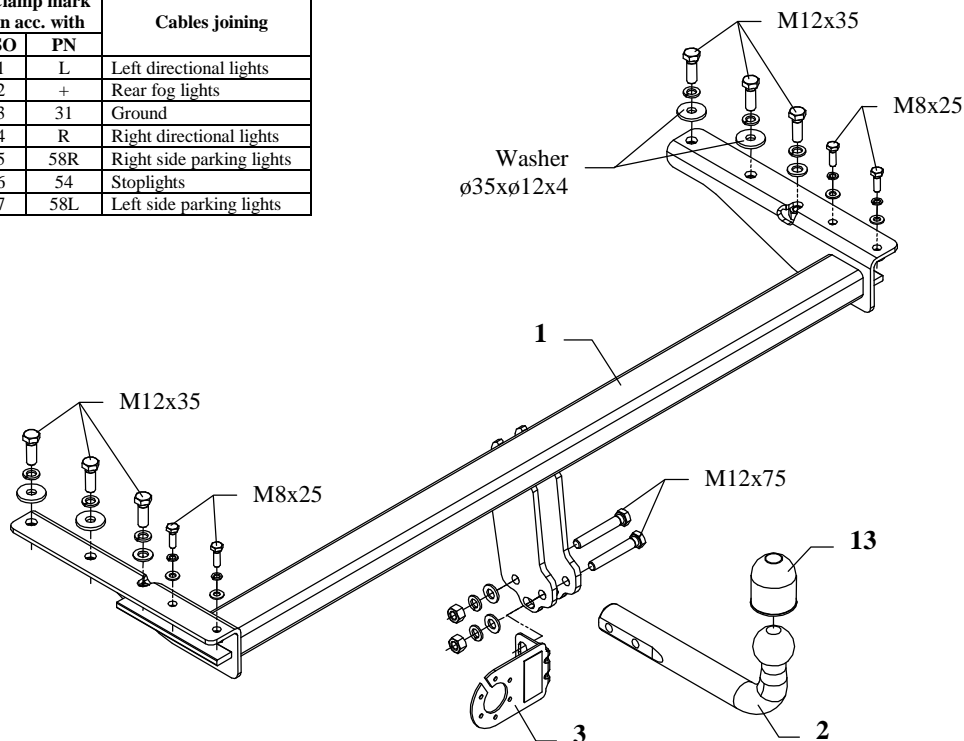
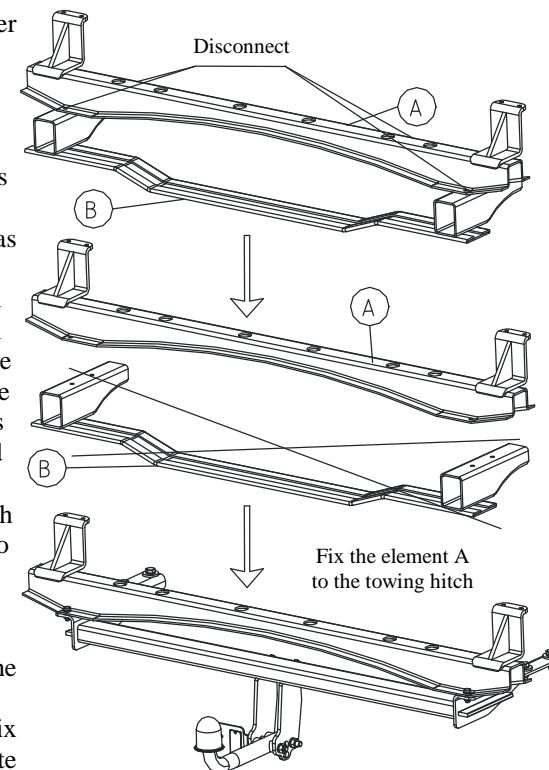

Fig. 1
Fig. 2
4. Disconnect the metal fulfilment as showed on the fig. 2.
5. Element B (see fig. 2) not used anymore, whereas element A (see fig. 2) one ought to fix to the main bar of the towing hitch (see fig. 1, pos. 1) using bolts M8x25mm (pos. 6) as showed on the fig. 2.
6. So prepared towing hitch fix with the bumper, which one ought to slip into chassis members, then fix using bolts M12x35mm (pos. 5) as showed on the fig.
8. To so prepared towing hitch fix tow-ball (pos. 2) and socket plate (pos. 3) by bolts M12x75mm (pos. 4) from accessories.